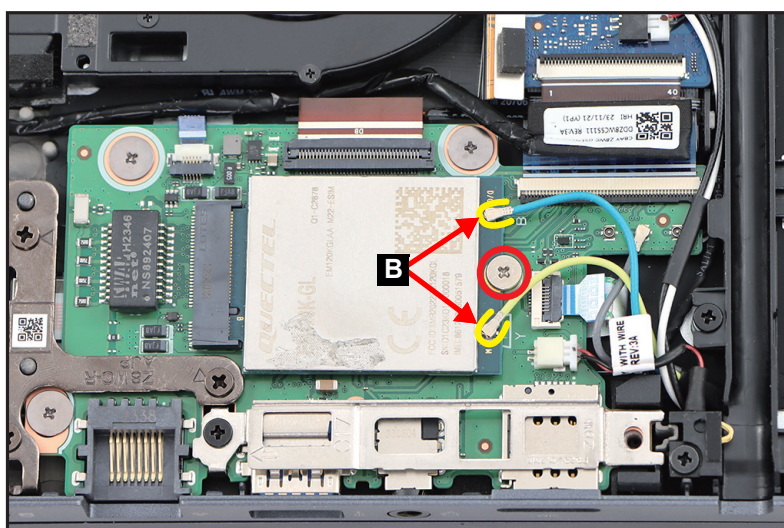

Figure 1-15. LTE Module Removal
2. Disconnect the LTE antennas cables from the LTE module connectors (B) (Figure 1-15).
3. Remove one (1) screw securing the LTE module in place (Figure 1-15).